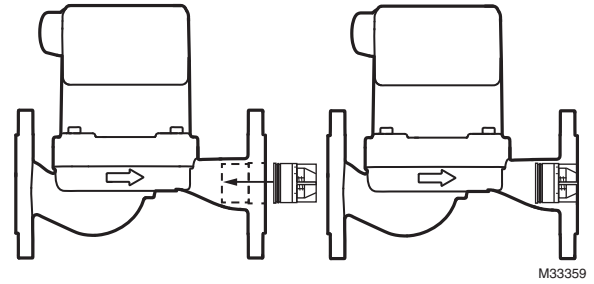

Fig. 6. Check valve installation.
- Hold the check valve so that the end with the O-ring goes into the pump first. Then press the check valve into the compartment on the outlet side of the circulator. Press firmly until it clicks into place (see Fig. 6).